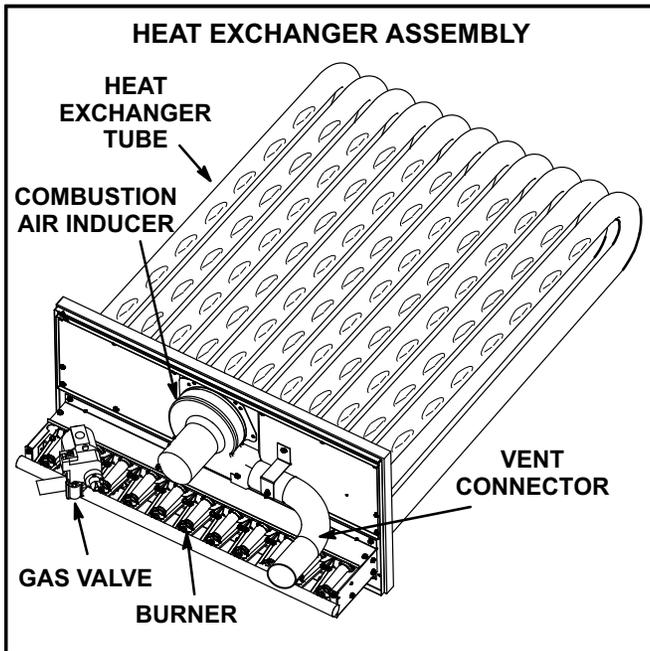

FIGURE 19
- 3- Remove and retain screws securing combustion air inducer to flue box. Remove and retain two screws from bracket supporting vent connector. See figure 19.